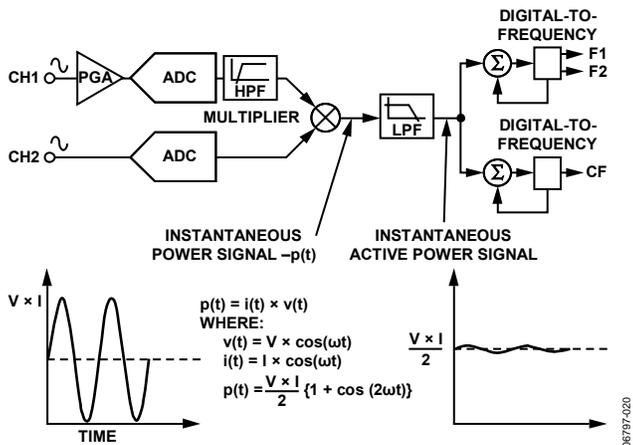

Figure 22. Signal Processing Block Diagram
The active power calculation is derived from the instantaneous power signal. The instantaneous power signal is generated by a direct multiplication of the current and voltage signals. To extract the active power component (dc component), the instantaneous power signal is low-pass filtered. Figure 22 illustrates the instantaneous active power signal and shows how the active power information can be extracted by low-pass filtering the instantaneous power signal. This scheme correctly calculates active power for nonsinusoidal current and voltage waveforms at all power factors. All signal processing is carried out in the digital domain for superior stability over temperature and time.
The pulse output calibration frequency (CF) is intended for use during calibration. The output pulse rate on CF can be up to 2048 times the pulse rate on F1 and F2. The lower the  $f_{1-4}$  frequency selected, the higher the CF scaling. Table 7 shows how the two frequencies are related, depending on the states of Logic Input S0, Logic Input S1, and Logic Input SCF. Because of its relatively high pulse rate, the frequency at this logic output is proportional to the instantaneous active power. As with F1 and F2, the frequency is derived from the output of the low-pass filter after multiplication. However, because the output frequency is high, this active power information is accumulated over a much shorter time. Therefore, less averaging is carried out in the digital-to-frequency conversion. With much less averaging of the active power signal, the CF output is much more responsive to power fluctuations (see Figure 22).